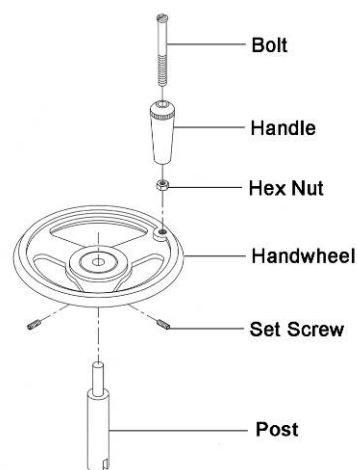

Figure 6
1. Slide the post up into the handwheel and secure with the set screws, as shown in Fig. 6.
2. Use a flat head screwdriver to screw the bolt of the handle as far as it will go into the threaded hole of the handwheel, then tighten the hex nut down against the handwheel (Fig. 6).